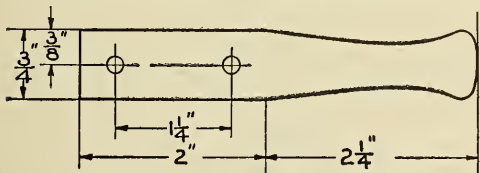
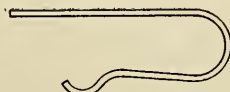
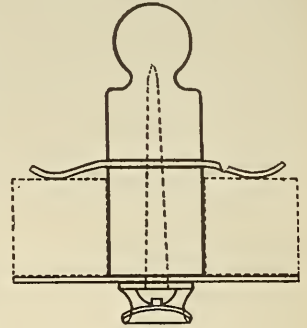

FIG. 67
FIG. 68
FIG. 69
66. Cut from some 1-16-inch spring brass a piece of dimensions given in Fig. 67 and bend it into the form shown in Fig. 68. These various parts can now be assembled as shown in Fig. 69.